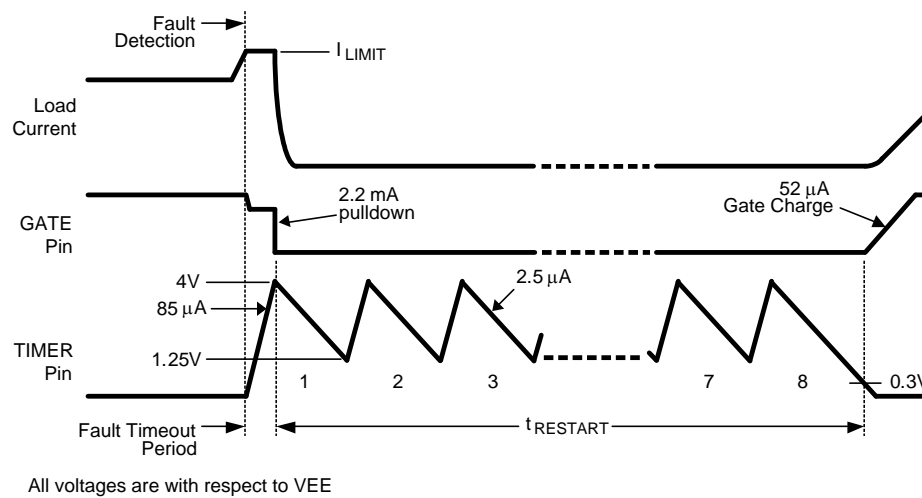

Figure 9. Restart Sequence (LM5067-2)
When the current limit or power limit threshold is reached during turn-on or as a result of a fault condition, the gate-to-source voltage of Q1 is modulated to regulate the load current and power dissipation in Q1. When either limiting function is active, an 85 μA fault timer current source charges the external capacitor (C_T) at the TIMER pin as shown in Figure 9 (Fault Timeout Period). If the fault condition subsides before the TIMER pin reaches 4.0V, the LM5067 returns to the normal operating mode and C_T is discharged by the 2.5 μA current sink. If the TIMER pin reaches 4.0V during the Fault Timeout Period, Q1 is switched off by a 2.2 mA pull-down current at the GATE pin. The subsequent restart procedure depends on which version of the LM5067 is in use.
The LM5067-2 provides an automatic restart sequence which consists of the TIMER pin cycling between 4.0V and 1.25V seven times after the Fault Timeout Period, as shown in Figure 9. The period of each cycle is determined by the 85 μA charging current, and the 2.5 μA discharge current, and the value of the capacitor C_T . When the TIMER pin reaches 0.3V during the eighth high-to-low ramp, the 52 μA current source at the GATE pin turns on Q1. If the fault condition is still present, the Fault Timeout Period and the restart cycle repeat.
C) Restart Timing If the LM5067-2 is in use, after the Fault Timeout Period described above, C_T is discharged by the 2.5 μA current sink to 1.25V. The TIMER pin then cycles through seven additional charge/discharge cycles between 1.25V and 4.0V as shown in Figure 9. The restart time ends when the TIMER pin voltage reaches 0.3V during the final high-to-low ramp. The restart time, after the Fault Timeout Period, is equal to: